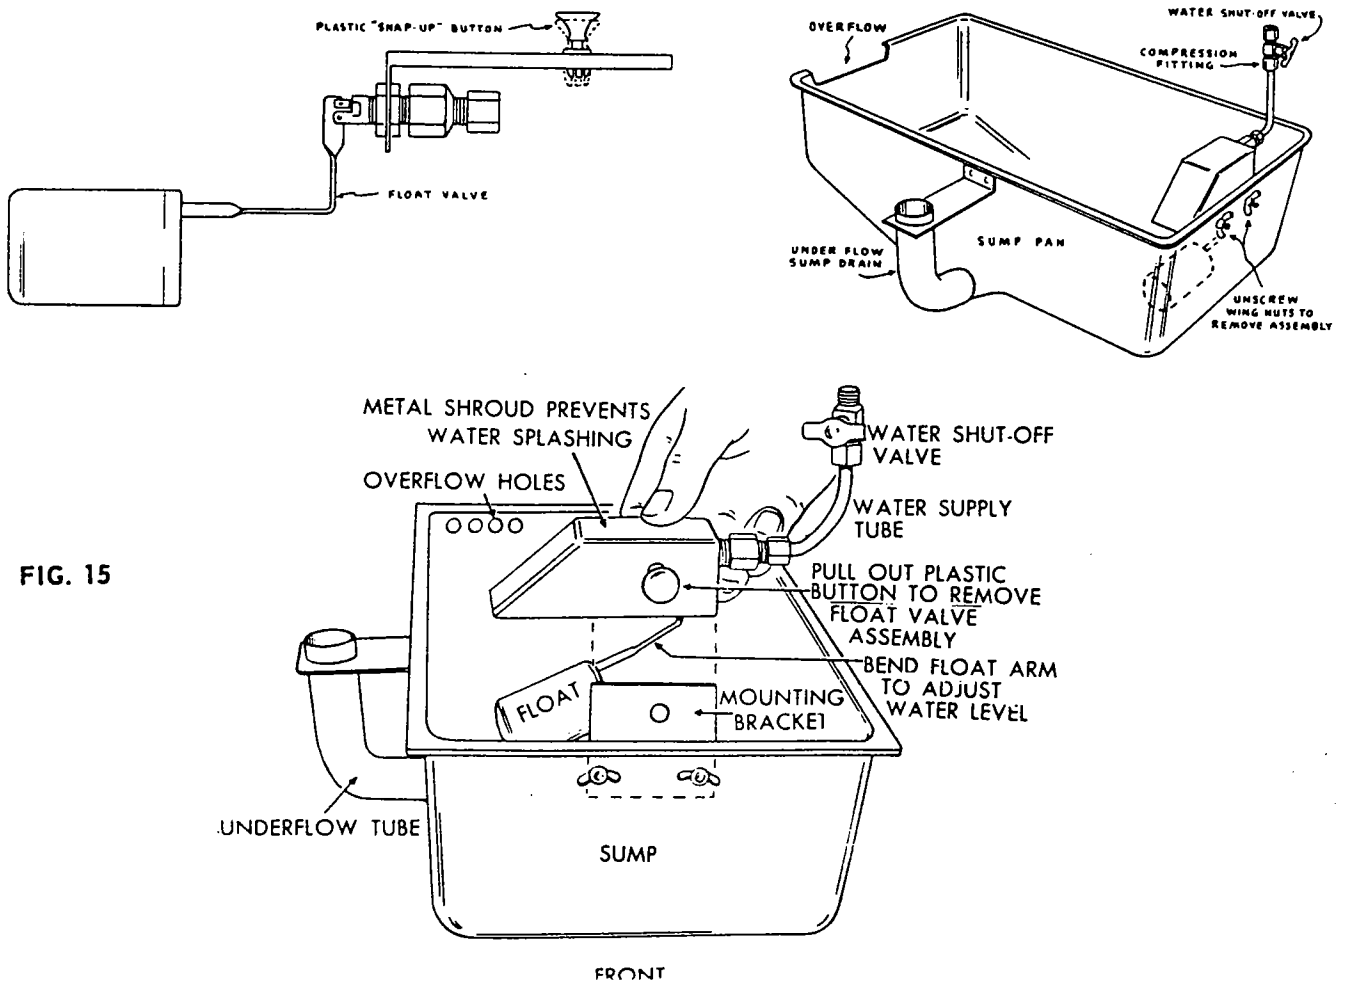

FIG. 15
8. Install float valve on sump pan and connect to water line. (Fig. 15) Float arm must have freedom of movement up and down and not bind against any side of sump pan.